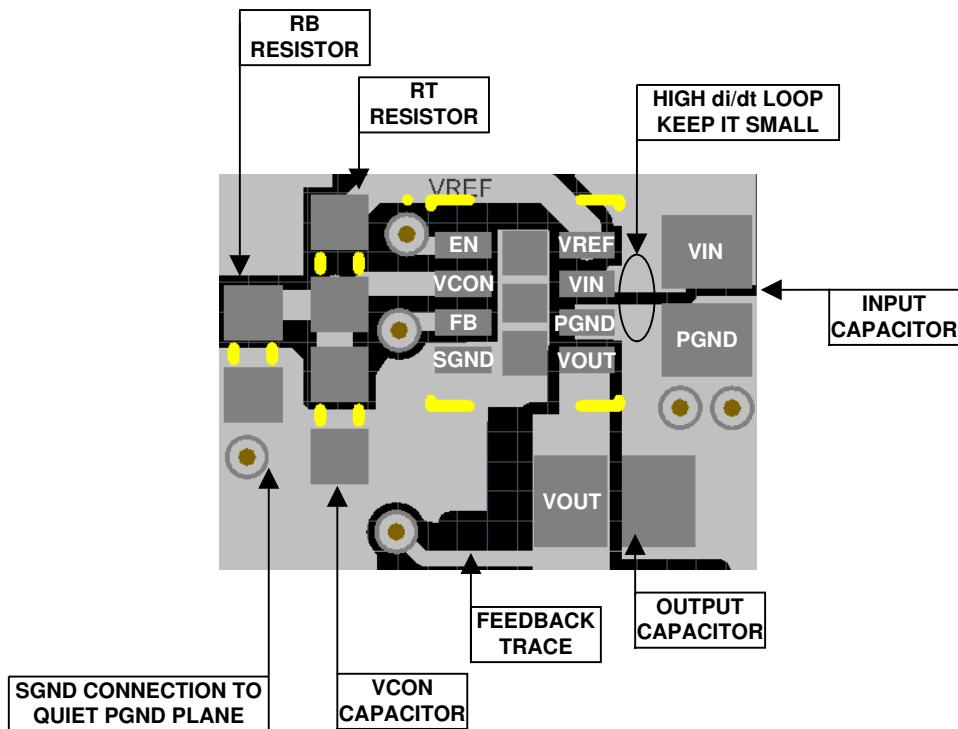

图 8-26. Example Top Layer Board Layout
The LMZ10501 integrates the inductor and simplifies the DC/DC converter board layout. Refer to the example layout in 图 8-26. There are a few basic requirements to achieve a good LMZ10501 layout.
2. Place the V_{CON} filter capacitor C_{VC} and the R_B R_T resistive divider as close as possible to the V_{CON} and $SGND$ pins. The C_{VC} capacitor (not R_B) must be the component closer to the V_{CON} pin, as shown in 图 8-26. This allows for better bypass of the control voltage set at V_{CON} .